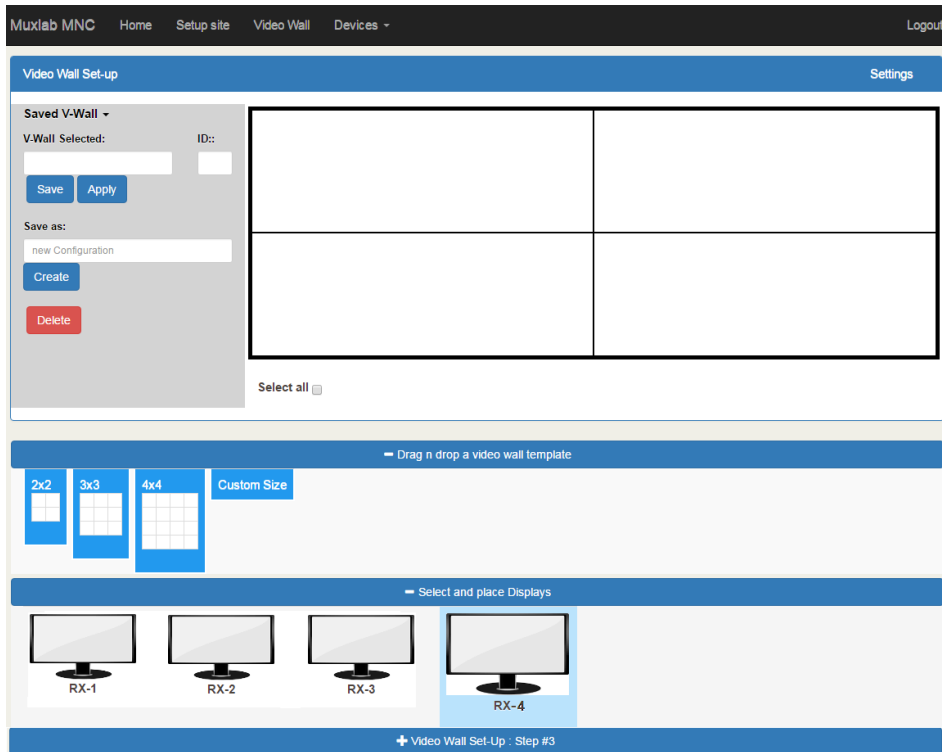

Figure 102: Video Wall Tab – Newly Created 2x2 Video Wall
- 2. The user clicks on **+Video Wall Set-Up: Step #2**, which expands to provide the user with display mapping options (Figure 102).